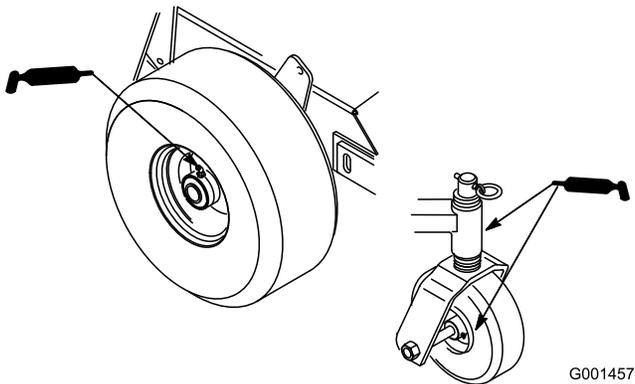

Figure 23
1. Lubricate the front wheel bearings and front spindles (Figure 23).
2. Lubricate the drive wheel bearings (Figure 23).